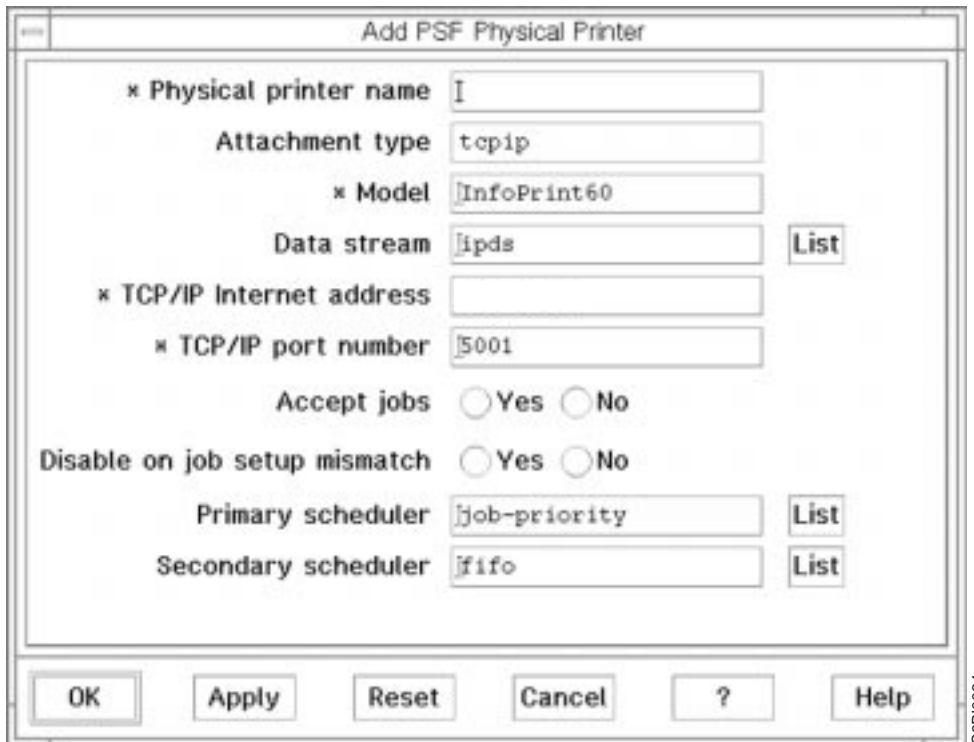

Figure 15. Add PSF Physical Printer Window
6. Select (use the middle mouse button on a 3 button mouse or both buttons on a 2 button mouse) **InfoPrint_60_Finisher** and drag-and-drop it into **Actual Destinations** **5** . You see the Add PSF Physical Printer window (Figure 15 on page 15).